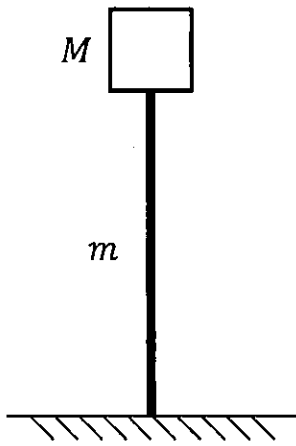
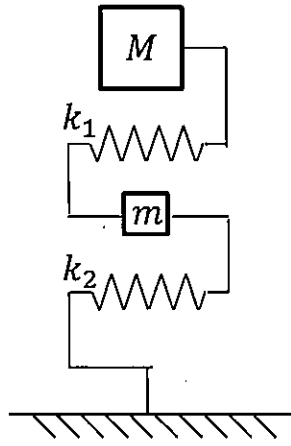

Figure 1
Figure 2
A structure with a mass of M [kg] attached to the top of a tower with the mass of m [kg] shown in Figure 1, is modeled as a two-degree-of-freedom system as shown in Figure 2. Here, k_1 [N/m] and k_2 [N/m] are spring constants.
- (1) Obtain the equation of motion of this system. x_1 [m] and x_2 [m] are the horizontal displacement of mass M and m , respectively. f_1 [N] and f_2 [N] are the horizontal forces acting on mass M and m , respectively.
- (2) When $M = 3m$ and $k_2 = 3k_1$, show all the eigenfrequencies and mode shapes of this system.
- (3) The behavior of the system shown in Figure 2 may differ from the original structure shown in Figure 1. Describe two limitations of the simplified model.